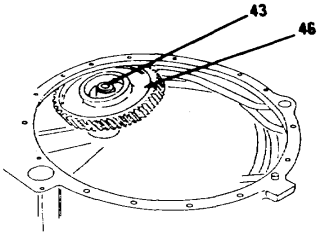
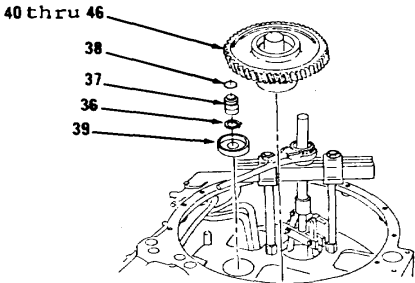
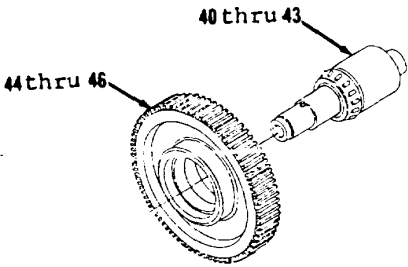

Figure 14-10.
Figure 14-11.
Figure 14-12.
42. Lift and tilt up on front of idler gear (46, Figure 14-10).
43. Lift idler gear shaft (43).
44. Remove items 40 thru 46 as an assembly (Figure 14-11).
45. Remove two snap rings (36), carrier rings (37) and seal rings (38). Discard two seal rings (38).
46. Using puller assembly, ratchet box wrench and bearing cup pulling attachment, remove three bearing cups (39).
47. Remove items 40 thru 43 as an assembly from items 44 thru 46 as an assembly (Figure 14-12).